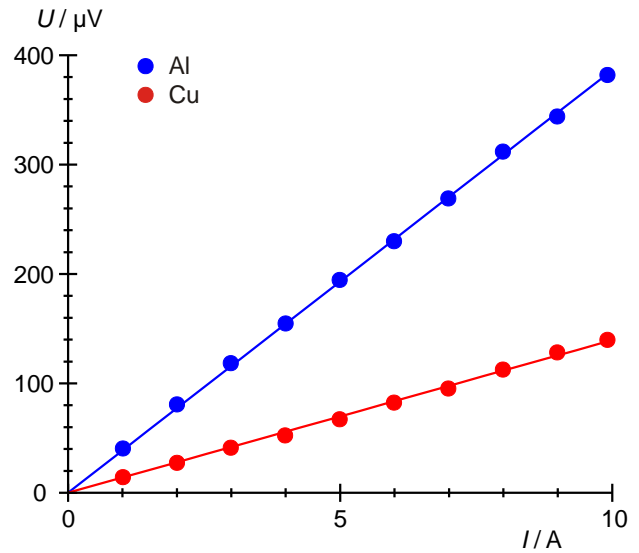

Fig. 4: Plot of U against I for copper and aluminium
- Plot the voltages U (Tab. 2) measured as a function of current I for the copper and aluminium rods on one graph (Fig. 4) and fit a straight line through the origin to each set of points.